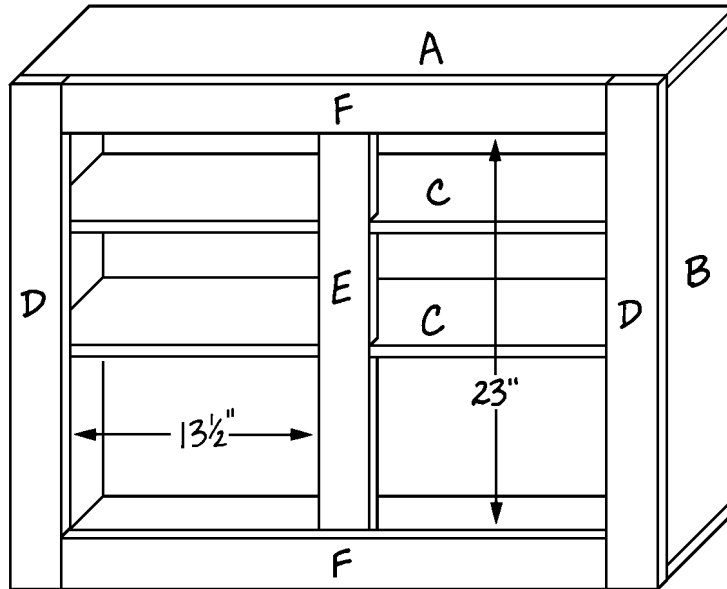

Figure 3
1. Cut four vertical trim pieces (D) from 1 x 4 pine, each measuring 30" long.
2. Glue one vertical trim piece (D) to the left side of the cabinet, as shown in *Figure 3*, and secure it with 1-1/4" screws inserted through the vertical trim piece (D) and into the edge of the side (B). Space the screws about 6" apart.
3. Repeat Step 2 to attach a second vertical trim piece (D) to the right side of the cabinet, as shown in *Figure 3*.
4. Cut two 28-1/2"-long center vertical supports (E) from 1 x 4 pine.
5. Fit one center vertical support (E) into the slots in the center front of the shelves (C), as shown in *Figure 3*. Glue the support in place and insert two 1-1/4" screws through the top/bottom (A) and into the end of the center vertical support (E) at each joint. Then drive two 3d finishing nails through the center vertical support (E) and into the slot in the center front of each shelf (C). Note that the spacing between the vertical pieces (D and E) should be exactly 13-1/2".
6. Cut four 30-1/2"-long horizontal trim pieces (F) from 1 x 4 pine.
7. Glue two of the horizontal trim pieces (F) flush with the top and bottom of the cabinet, between the vertical trim pieces (D), as shown in *Figure 3*. Then insert three 1-1/4" screws along each horizontal trim piece (F) to secure it to the edge of the top/bottom piece (A). Note that the opening between the top and bottom horizontal trim pieces (F) should be exactly 23".
- Repeat Steps 1 through 7 to attach two vertical trim pieces (D), one center vertical support (E) and two horizontal trim pieces (F) to the remaining cabinet frame.